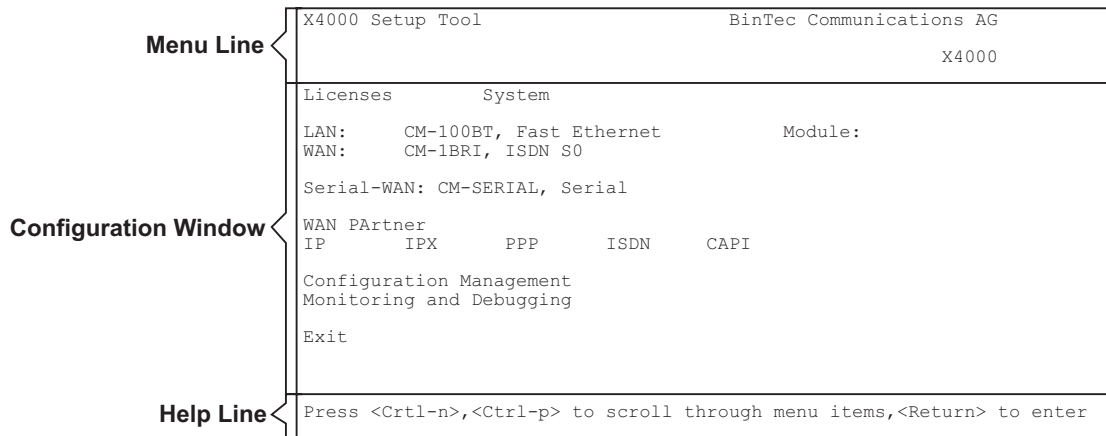

Figure 4-3: Setup Tool menu layout
**Menu layout** Every Setup Tool menu consists of three parts (see Figure 4-3, page 80):